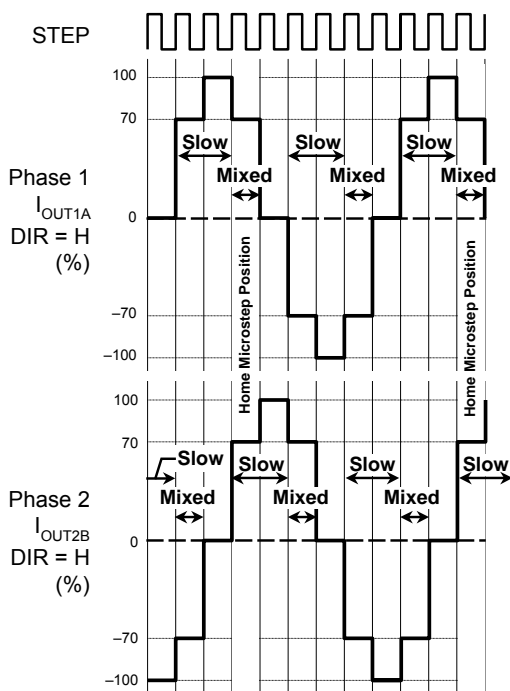

Figure 3. Decay Modes for Half-Step Increments
**Mixed Decay Operation** The full bridges can operate in mixed decay mode when set by the step sequence (see figures 3 through 5). As the trip point is reached, the device goes into fast decay mode for 30.1% of the fixed off-time,  $t_{\text{OFF}}$ . After this fast